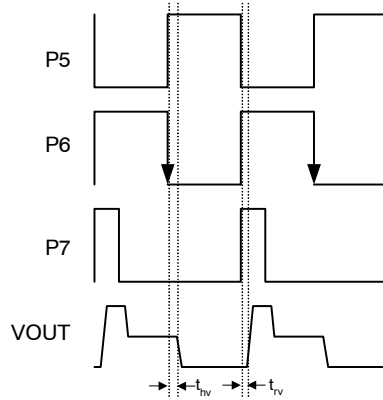
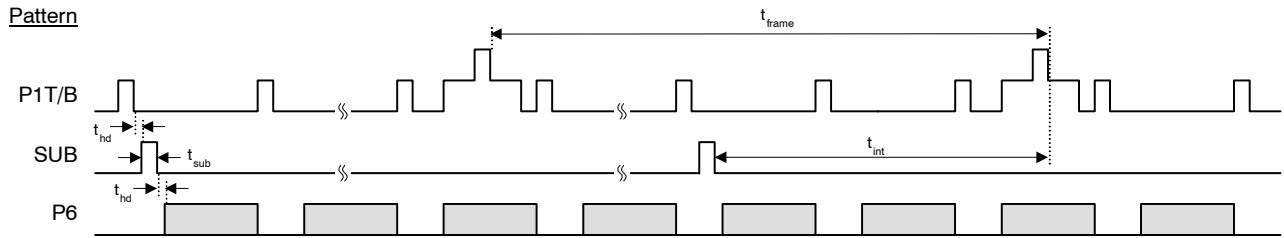
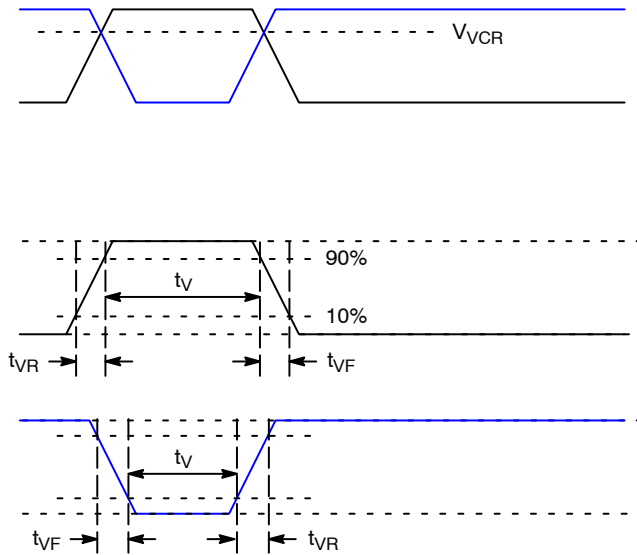

Figure 23. Pixel Timing Detail
Figure 24. Frame/Electronic Shutter Timing
Figure 25. VCCD Clock Edge Alignment
1. Refer to timing diagrams as shown in Figure 21, Figure 22, Figure 23, Figure 24 and Figure 25.
2. Refer to Figure 25: VCCD Clock Edge Alignment.